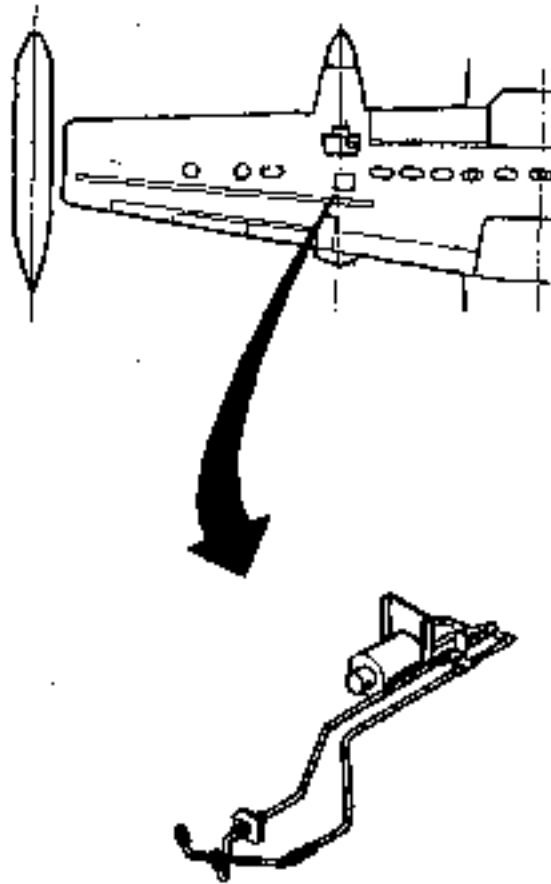

Fig. 6-3 Installation of torque transducer
3.2 REMOVAL AND INSTALLATION OF TORQUE TRANSDUCER (See Fig. 6-3)